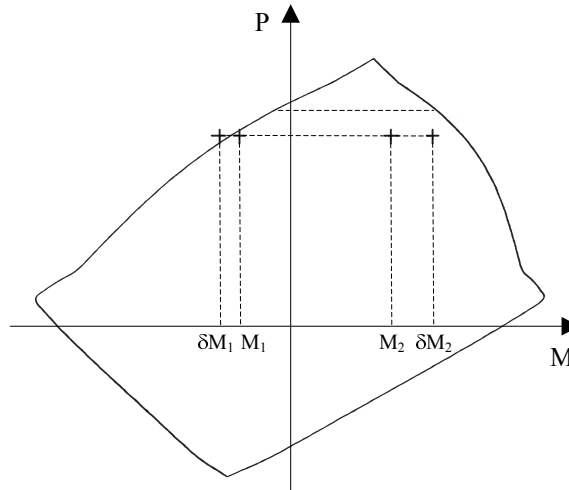

Figure 2-7 Case of unsymmetrical section bent in double curvature (M_1 and M_2 of different sign) with the smaller end moment, M_1 , governing the design
While design codes define moment M_2 as always positive and the sign of moment M_1 depending on single or double curvature bending⁴⁶, spColumn retains actual signs of moments M_1 and M_2 . This revision ensures proper comparison against negative and positive moment capacities of unsymmetrical sections (see Figure 2-7).
2. Moments at column ends, M_1 and M_2 , are calculated, where M_1 is the moment with the smaller absolute value and M_2 is the moment with the larger absolute value. For columns in nonsway frames, the end moments will be equal to the factored applied first order moment. For columns in sway frames, the end moments will be the moments M_1 and M_2 calculated in the procedure for moment magnification at ends of compression member. While design codes define moment M_2 as always positive and the sign of moment M_1 depending on single or double curvature bending⁵⁵, spColumn retains actual signs of moments M_1 and M_2 to ensure proper comparison of resulting magnified moments against negative and positive moment capacities of unsymmetrical sections (see Figure 2-7). This revised interpretation does not affect results of the moment magnification along length procedure because the procedure relies on the M_1/M_2 ratio. spColumn follows the code definition which assumes the ratio to be positive if the member is bent in single curvature and negative if bent in double curvature. If both moments are equal to zero, the program conservatively assumes the ratio of $M_1/M_2 = 1.0$.
- The factored magnified moment along the length of a compression member, M_c , is the larger⁶⁷ of δM_2 and δM_{min} . The program also calculates moment M_c based on the smaller end moment, M_1 , to account for scenario when M_1 and M_2 are of different sign (double curvature bending). For an unsymmetrical section, the smaller moment, M_1 , may govern the design when the moment capacity on the negative side of the interaction diagram is smaller than the moment capacity on the positive side (see Figure 2-7).